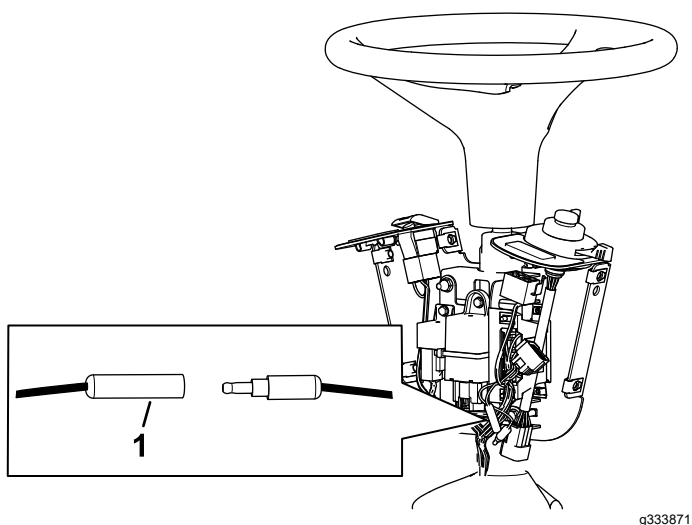

Figure 10
11. Leave the bullet connectors disconnected as shown in Figure 10.